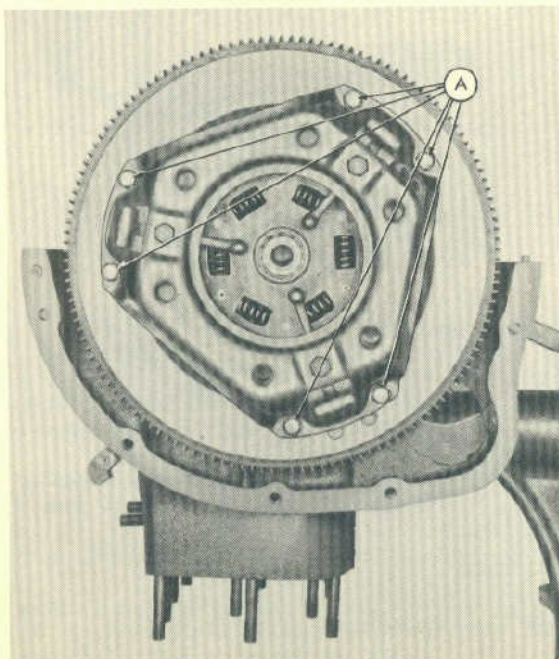

Fig. 1
Step 1—Remove the clutch assembly by removing the six cap screws (A-Figure 1). Grasp both the friction plate and clutch assembly when removing.